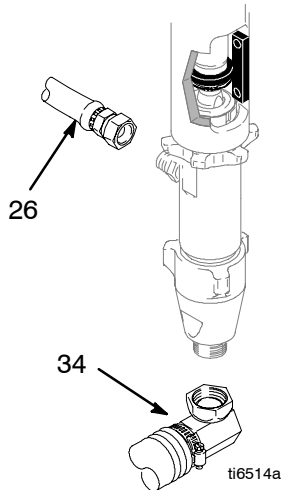

Fig. 11
3. Fig. 11 - 13. Remove pump.
3. Fig. 11. Remove suction tube (34) and hose (26).